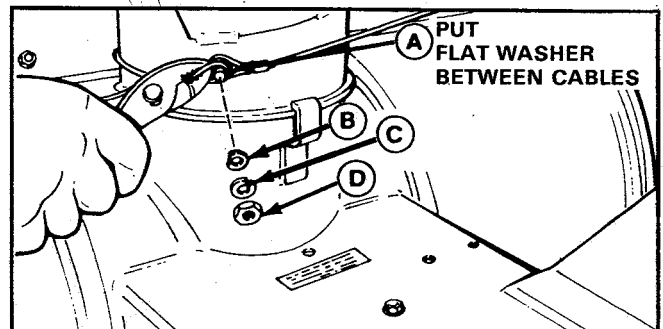
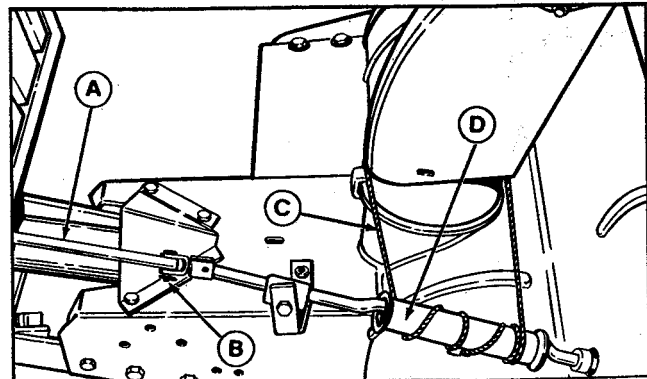

Figure 3.
Figure 6
- b. Wrap the cable around the chute and attach with hardware shown in figure 3. Also, see figure 6 for an illustration of how cable is wrapped around spool.
6. Attach the spout rotator handle (A, figure 6) with the pin and cotter pin (B).